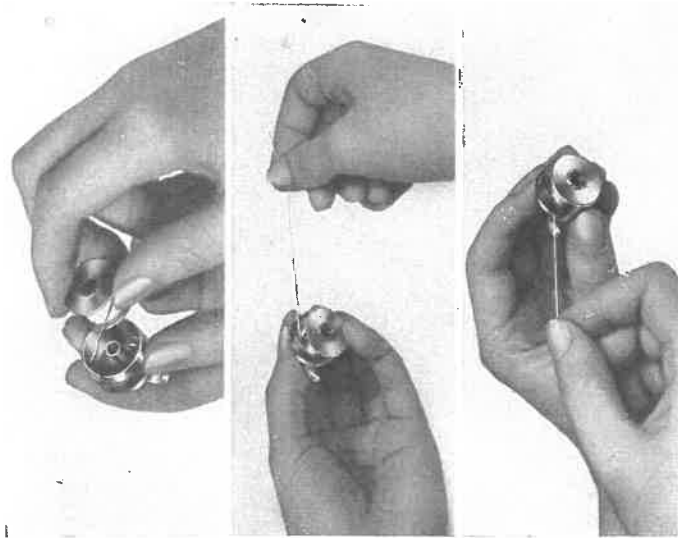

Fig. 10
- d) Insert the filled bobbin into the bobbin case inserting the free end of the thread as shown in Fig. 10, of which should about 4 inches hang out of the bobbin case.